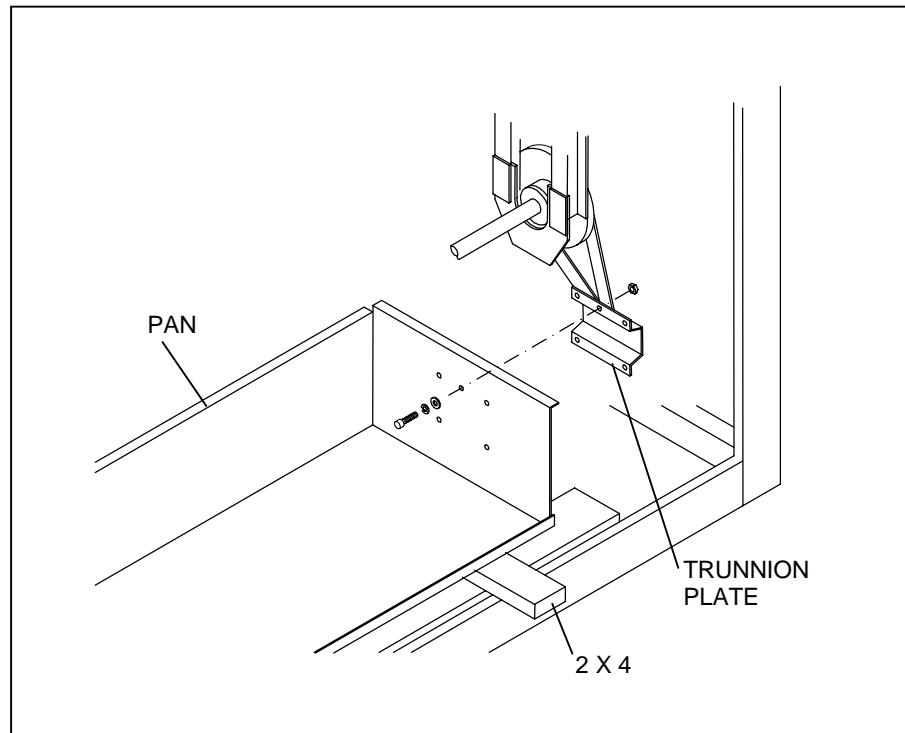

Figure 25. PAN INSTALLATION
4. Place two 2 x 4s across the bottom spreaders. Slide a pan over the 2 x 4s and align with the trunnion plates (see Figure 25).